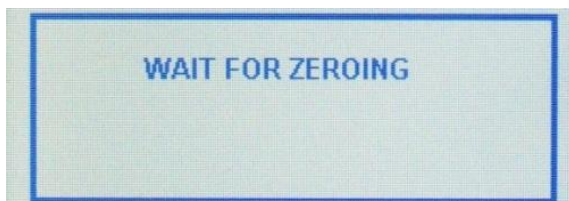

Fig. 8a “ADC resetting in progress” notice
- Touch Yes and wait few seconds while the screen shows the notice “Wait for zeroing” (Fig. 8a). When the ADC has been finally reset the notice “Zeroing Completed” (Fig. 8b) appears on the display and the meter is ready for use again.